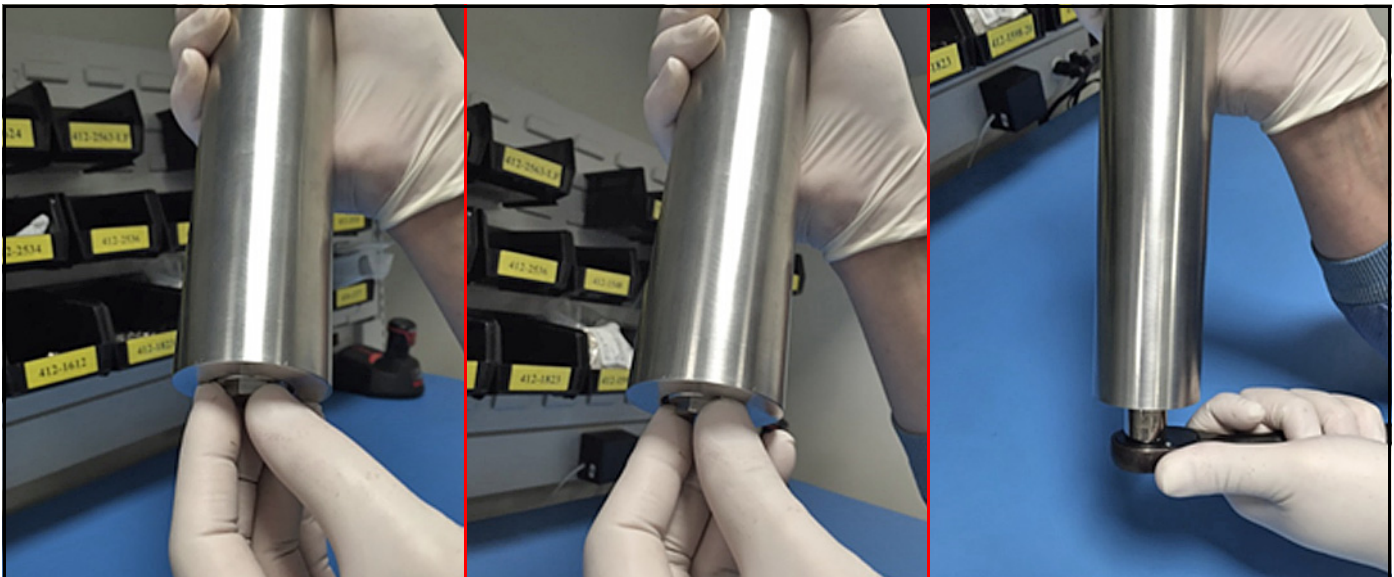

Figure 59: Replacing Mirror End Cap Assembly into the Absorption Cell
18. Using tweezers, insert the mirror into the hole on top of the shim, with the gold-plated side facing up. Thread the end cap into the bottom of the absorption cell tube. Secure the threaded end cap in place with a 5/8" socket wrench (see *Figure 59* below).